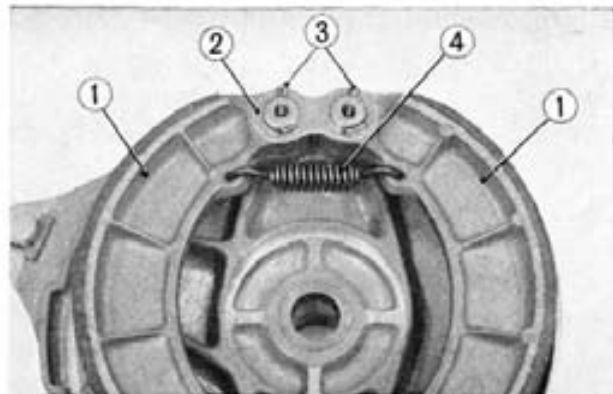

Fig. 13-20
10. Remove the two cotter pin, washer and then the rear brake shoes can be removed from the rear brake panel. (Fig. 13-20)